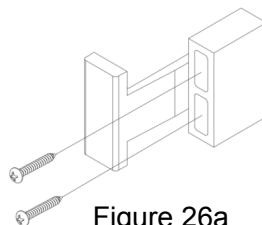

Figure 26a
42. Attach the screen keeper (Item 32) to the jamb using two screws (Item 43; Figure 26a and 26b). Do not install Jamb cover where screen engages with jamb. Install screen keeper so that the adjusted screen engages the lock.